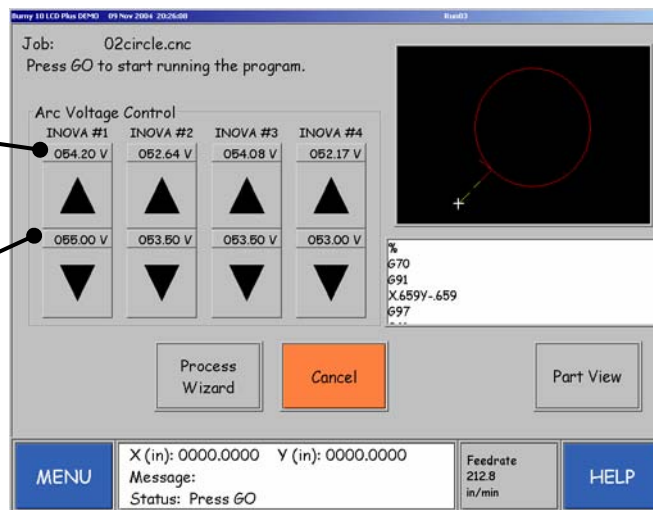

Figure 6 - Run03 Screen with Inova Arc Voltage Controls
After you restart the Burny controller, the *Run03 Screen* displays up to four (4) arc voltage control buttons representing the Inova Torch Height Control(s) you configured. The value displayed above the **Up Arrow** button is the actual voltage of the plasma torch. The value displayed between the **Up Arrow** and **Down Arrow** buttons is the value defined in cut chart table for the part being processed. Refer to Figure 6.